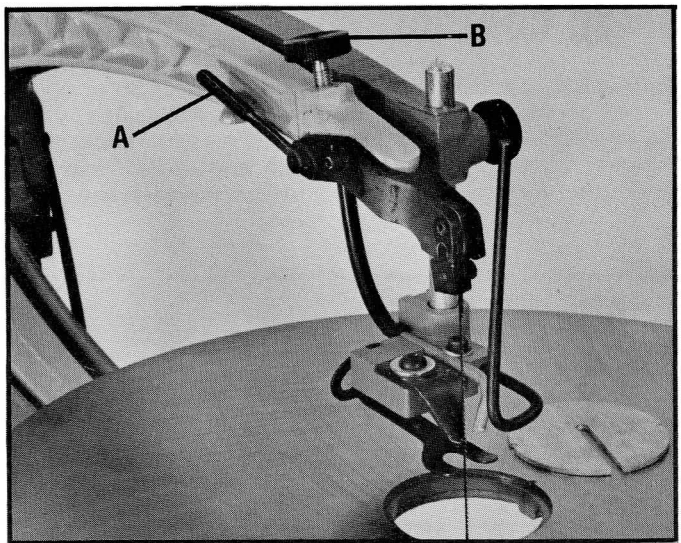

Fig. 20
Tension is applied to the blade when the blade tension lever (A) is in the rear position, as shown in Fig. 20. When the lever (A) is moved forward, blade tension is released.
To increase blade tension, turn knob (B) Fig 20, clockwise and to decrease blade tension, turn knob counterclockwise. When adjusting tension, lever (A) should be in the forward position.